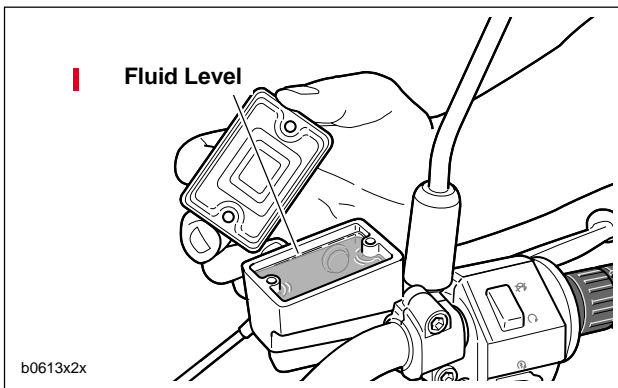

Figure 1-12. Checking Brake Fluid (Switch shown uncovered for clarity)
- c. Remove cap and gasket from rear master cylinder reservoir. Bring fluid level to between upper and lower marks on reservoir. See Figure 1-12.